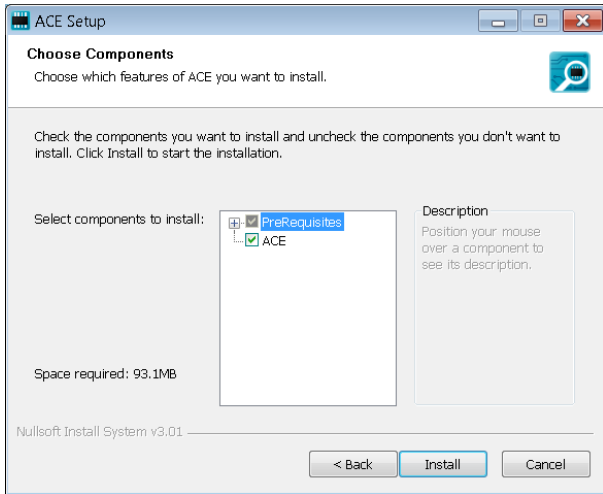

Figure 7. Choose Components
- The **ACE** software components to install are preselected (see Figure 7). Click **Install**.